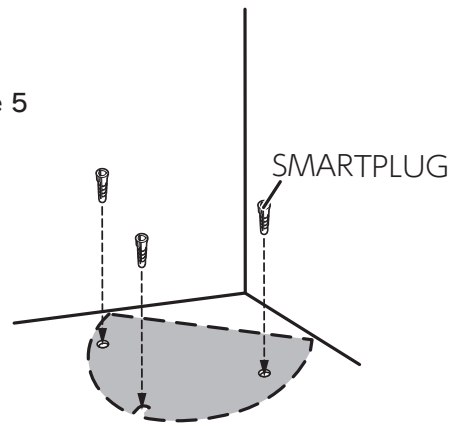

Figure 4
- Place the frame stand against the lower corner plate with nuts, and then make marks 3 places. **Figure 4**